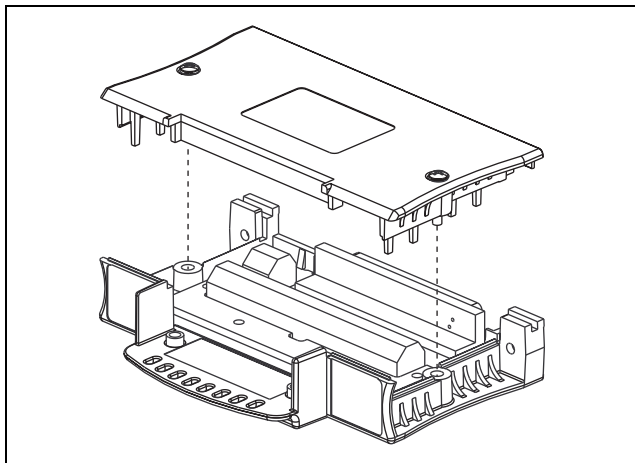

Figure 3. Removing the Top Cover from the cFP-CB-*x*
1. Loosen the top cover screws and remove the cover. Refer to Figure 3.